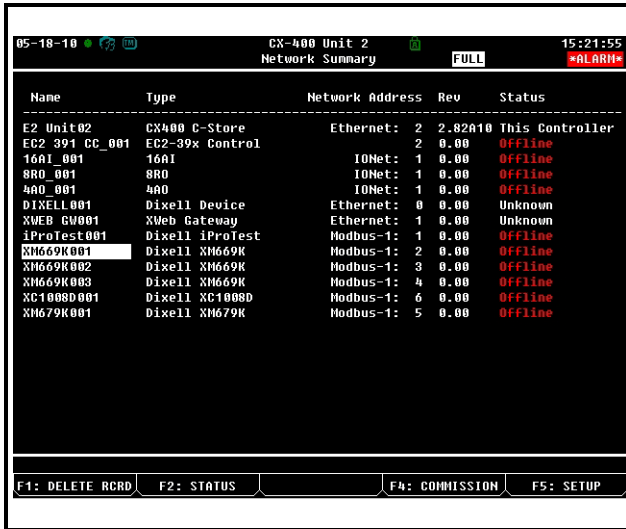

Figure 18-6 - Network Summary Screen
8. When finished, press **F1** to return to the *Network Setup* menu, then press **F1** - **Network Summary** (Figure 18-6). Locate the devices you set up, and look at each device's status in the **Status** field. You will see one of the following messages: